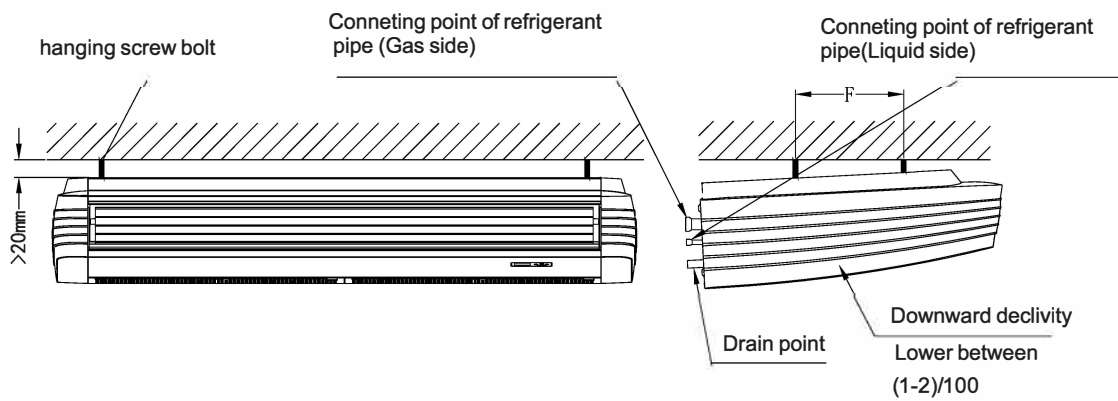

Fig 4.10
③ Hang the unit on the hanging arm by sliding backward. Securely tighten the mounting bolts on both sides (Refer to Fig 4.10)